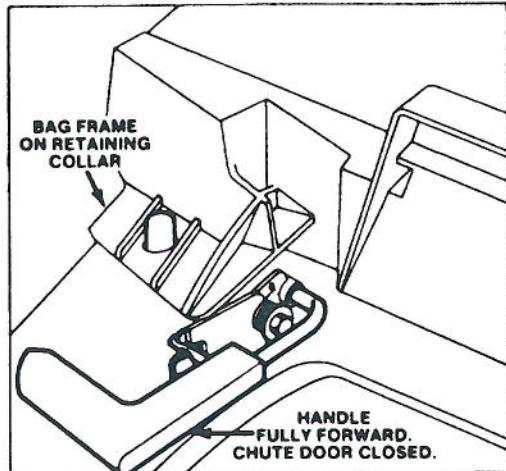

Figure 5
**MULCH** — In summer, when grass grows slower and is drier, mulch by closing chute door (Fig. 5). For convenience and protection, keep grass bag on mower.
5. EMPTYING BAG — Release control bar and wait for blade to stop. Move chute door handle forward to engage the locking pin with catch (Fig. 5). Grasp handle at front and rear of bag and lift bag off mower. For protection, always keep hands and feet away from mower housing because engine is running. Gradually tip bag forward to empty clippings.